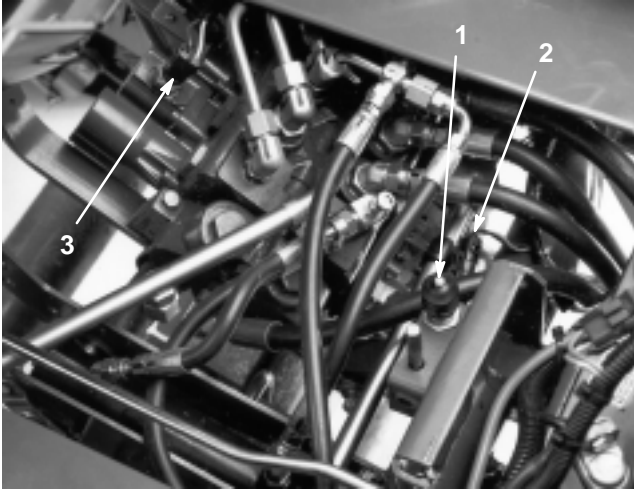

Figure 53
2. Remove the boot from the button end of the seat switch (Fig. 53) and retain it for installation on the replacement switch. Unplug the switch connectors.
2. Unplug the switch connectors from the traction switch installed in the valve bank bonnet on the selector valve section (Fig. 53).
2. Unplug the switch connectors from the end of the mow/lift switch installed in the valve bank bonnet (Fig. 53).